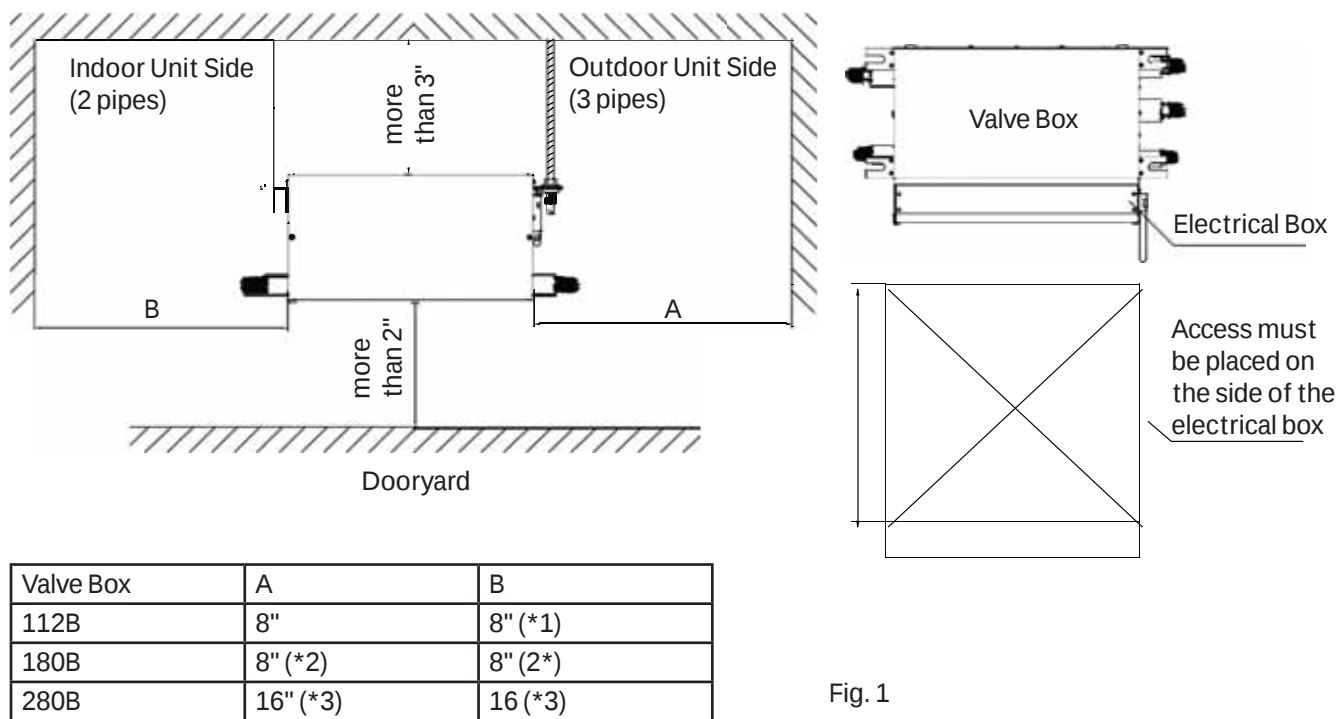

Fig. 1
- Provide adequate clearance as shown in Fig.1.
See the Fig.1 & Fig.2 to install the lifting bolts and hoisting tools.